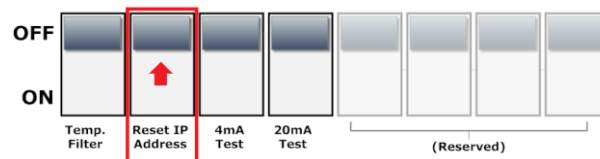

Figure 8: Clear the IP reset DIP Switch (OFF)
Step 4: Turn off the IP Reset DIP switch (see Figure 8)